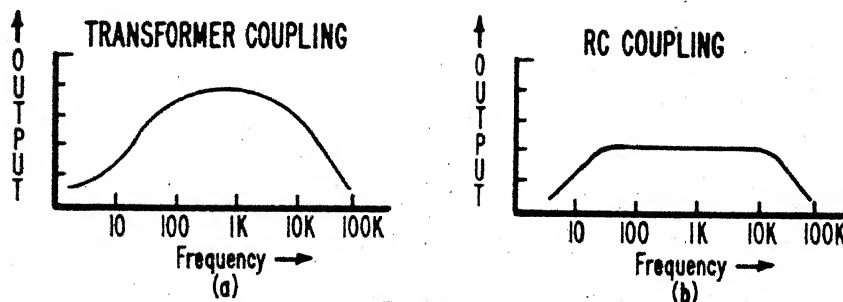

FIGURE 2
Figure 2 shows the typical response curves for actual transformer-coupled and resistance-capacitive (RC) coupled amplifiers.